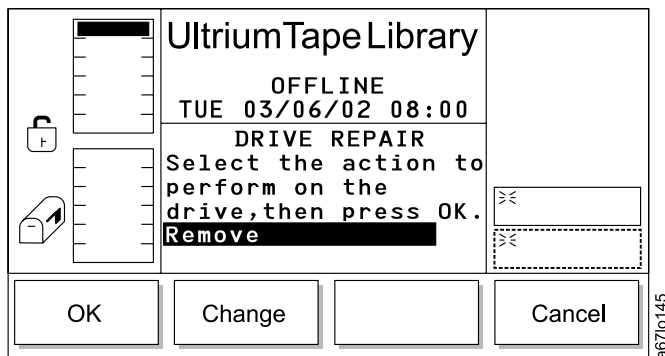

Figure 195. Repair Dialog
- If **Repair** is selected, the Repair Dialog displays (see Figure 195 on page 150).